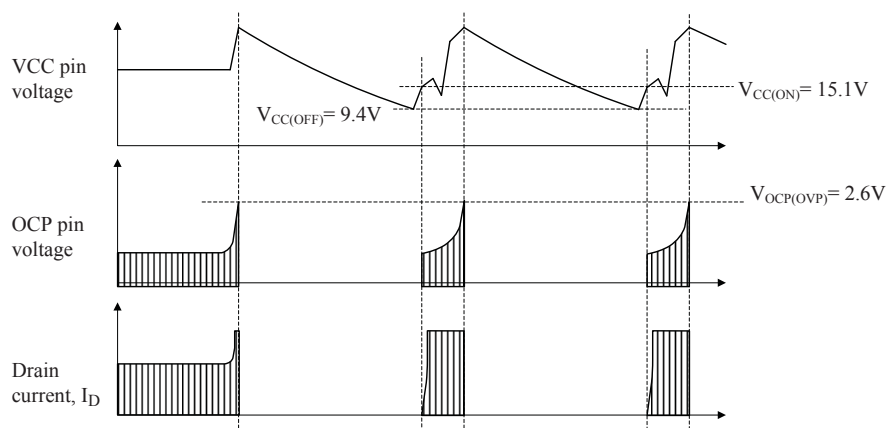

Figure 38. Waveforms when OCP pin OVP is being activated (LC552xD and LC552xF)
- OCP Pin Overvoltage Protection. Figure 38 shows the OCP pin OVP function. When the OCP pin voltage with reference to the S/GND pin reaches $V_{OCP(OVP)} = 2.6\text{ V}$, OVP is activated.